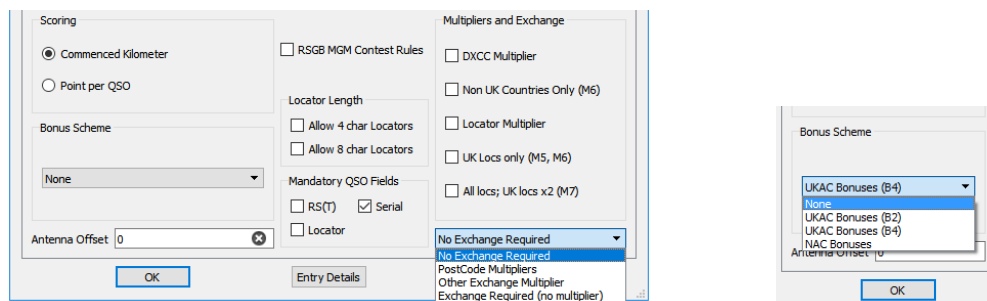

Figure 12 – Contest details and Bonus schemes
- **Contest:** Typically derived from the contest calendar, specifying contest name, band(s), and scoring. If the calendar is not used then individual boxes can be configured (see Figure 12) or modified from the calendar derived values.
For normal single contest operation close anything other than the current contest, or ensure that the non-current contests are marked as “Protected” to prevent you accidentally modifying them. This is done by selecting “File/Contest Details” for the requisite contest and then ticking the “Protected” tick box on the right hand side just above the “Power” box, see Figure 12.
If the contest is not selected from the Calendar then use the relevant fields on the “Details of Contest Entry” panel (see Figure 12) to set the name, date/time, scoring, multipliers etc. Any bonus scheme in use must also be selected from the pulldown list at the bottom left.